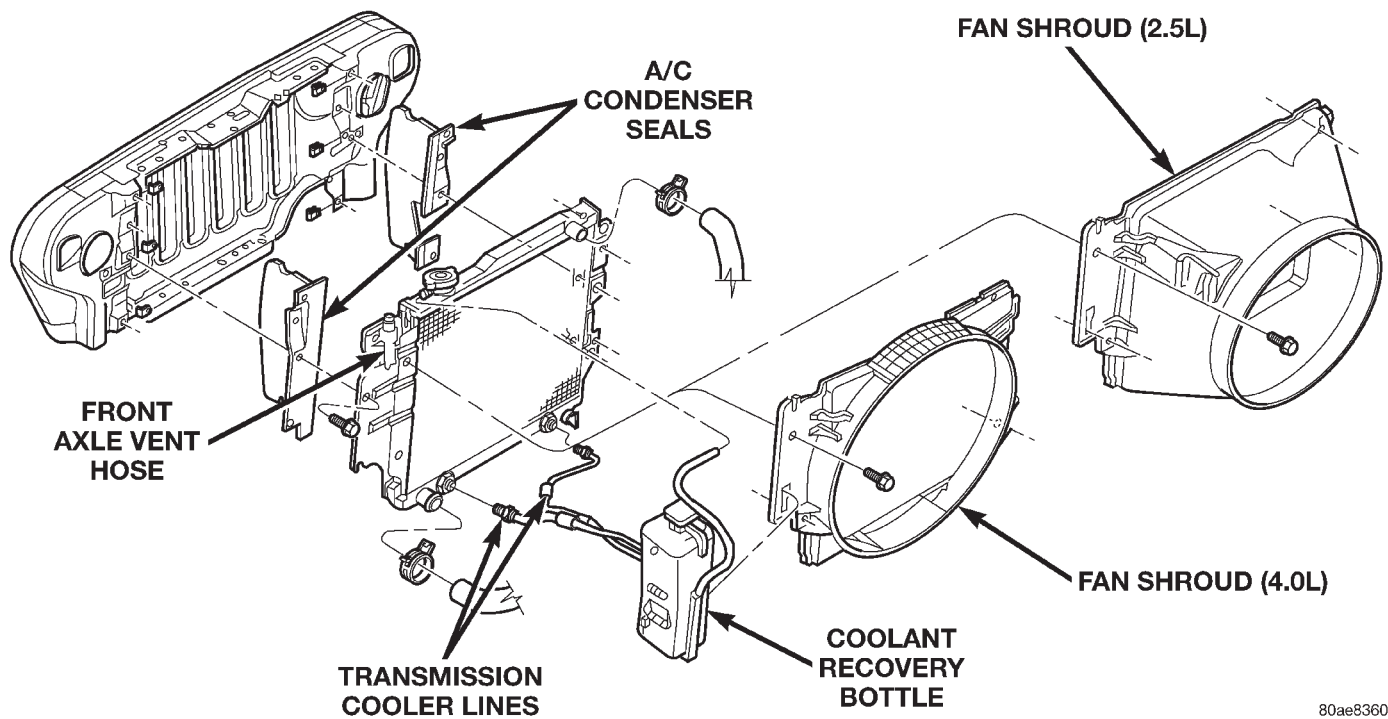

Fig. 25 Radiator—Remove/Install
- (1) Disconnect negative battery cable at battery.
- (2) Observe the previous **WARNING**. Remove the radiator cap.
- (3) Position drain pan under draincock. Open radiator draincock and drain radiator. **DO NOT WASTE** reusable coolant. If solution is clean, drain coolant into a clean container for reuse.
- (4) Remove radiator upper and lower hose clamps. Remove radiator hoses.
- (5) Disconnect coolant reserve/overflow tank hose from radiator.
- (6) Remove the four fan shroud mounting bolts (Fig. 25). On some models the power steering fluid reservoir tank is attached to the side of the fan shroud. Tie the reservoir back to prevent spillage. Position the fan shroud back over the fan blades.
- (7) If equipped, disconnect and plug automatic transmission fluid cooler lines.
(8) Remove six radiator mounting bolts. Position the front axle vent hose (Fig. 25) to the side.
(9) Lift radiator straight up and out of vehicle taking care not to damage radiator fins.
(10) When removing radiator, note position of the rubber seals located on the top and bottom of radiator (on certain models only) (Fig. 25). To prevent possible overheating, these seals must be installed to their original positions.
(1) Position the radiator. Install and tighten the six mounting bolts (Fig. 25) to 8 N·m (72 in. lbs.) torque.
(2) Close radiator draincock.
(3) Position fan shroud and power steering reservoir tank (if equipped). Install and tighten four mounting bolts to 8 N·m (72 in. lbs.) torque.
(4) If equipped, remove plugs and connect automatic transmission fluid cooler lines. Tighten fittings to 16 N·m (140 in. lbs.)
(5) Connect radiator hoses and install hose clamps.
(6) Connect battery negative cable.
(7) Fill cooling system with correct coolant. Refer to Cooling System Refilling in this group.
(8) Connect coolant recovery bottle hose.
(9) Install radiator cap.
(10) Check and adjust automatic transmission fluid level (if equipped).
(11) Start engine and check for leaks.